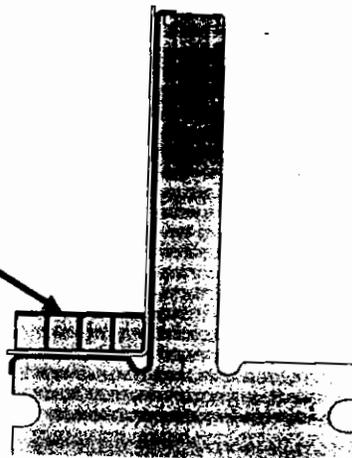

Figure 12-Glass Shim Packs
6.11.3 To maintain tolerance control, glass tape shim packs will be placed between layers as required. The thickness and location of these shim packs will be determined by the measurements made during winding. The addition of glass shims will be noted in the turn winding section. **Figure 12-Glass Shim Packs**